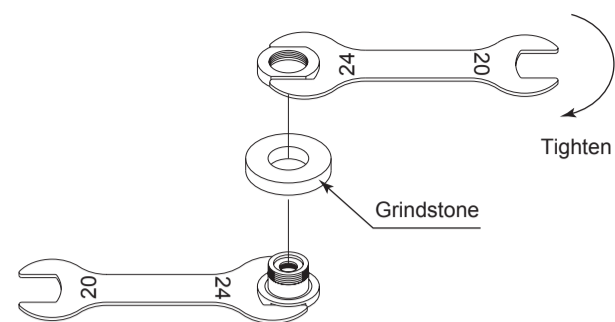

Fig. 8
- Fix the grindstone to the flange by 24mm wrench (2pcs.) (Fig.8).